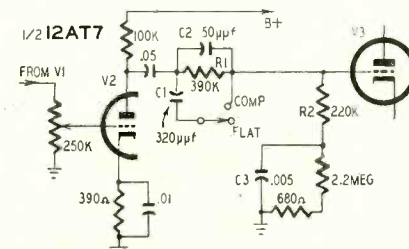

Fig. 6—Schematic of the second and third stages of the modified Pentron.
1. Fig. 6 shows that two resistors (R1, R2) and one capacitor (C3) were
2. Fig. 6 shows two changes involving capacitors. C2, 50 μ f, was added to boost high frequencies at the 7.5 i.p.s. speed. C1, which provides treble boost only at the 3.75-i.p.s. speed (COMPENSATE position of the switch) was reduced from .001 to 320 μ f because R1 was increased from its original value. At the 3.75-i.p.s. speed the modified Pentron is 3 db down at 50 cycles and 5 kc and flat within this range when the FLAT-COMPENSATE switch is in COMPENSATE position both in record and playback. Not only is this as good as the frequency range generally available on AM radio, but it is not much below the range of many FM programs, particularly those originating from intercity telephone-line networks.